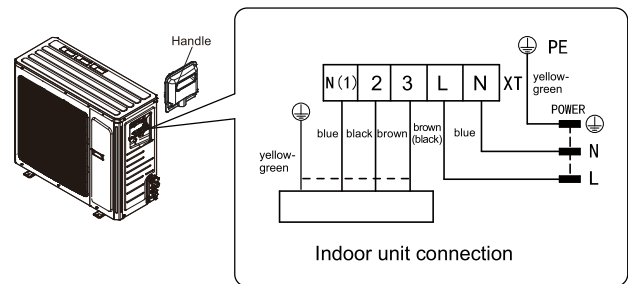

Fig.23
- (1) Remove the wire clip; connect the power connection wire and power card to the wiring terminal according to the color; fix them with screws.(As show in Fig.23)